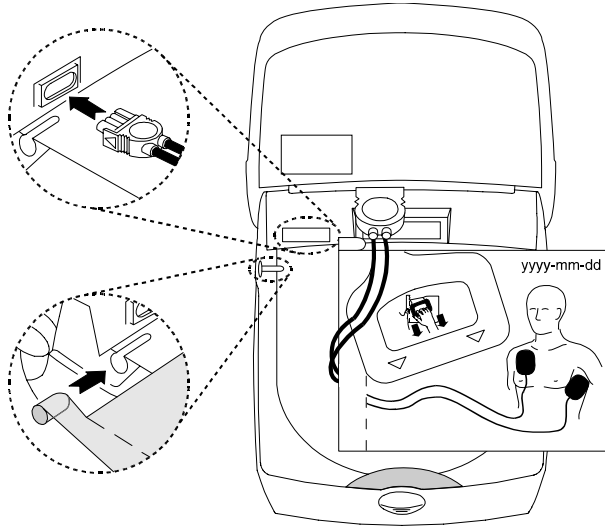

Figure 7 Connecting the Training Electrode Packet to the LIFEPAK CR-T AED Trainer
- Insert the electrode pads connector into the Trainer cable receptacle until it snaps into place (see Figure 7).
- Insert the black plastic anchor pin on the electrode packet into the anchor receptacle at the upper left corner of the Trainer (see Figure 7).